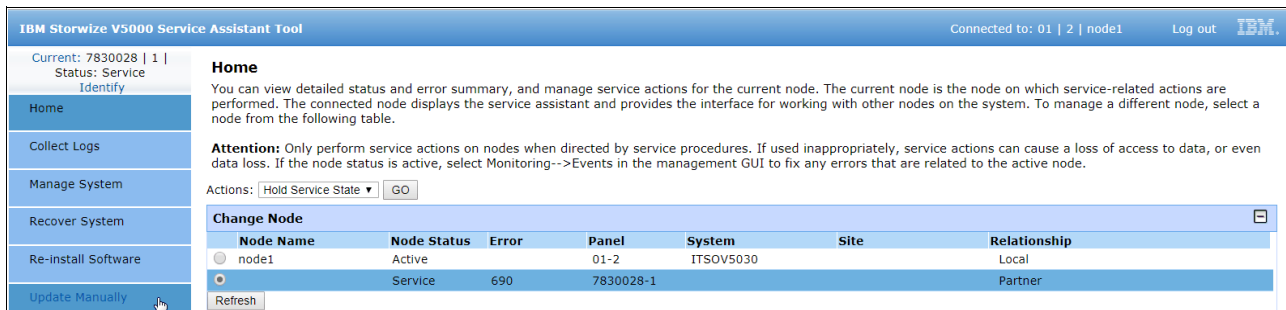

Figure 12-55 Node to update in the Service Assistant Tool
- In the Service Assistant Tool, ensure that the node that is ready for update is selected. The node can be in the Service status, display a 690 error, and show no available cluster information, as shown in Figure 12-55.